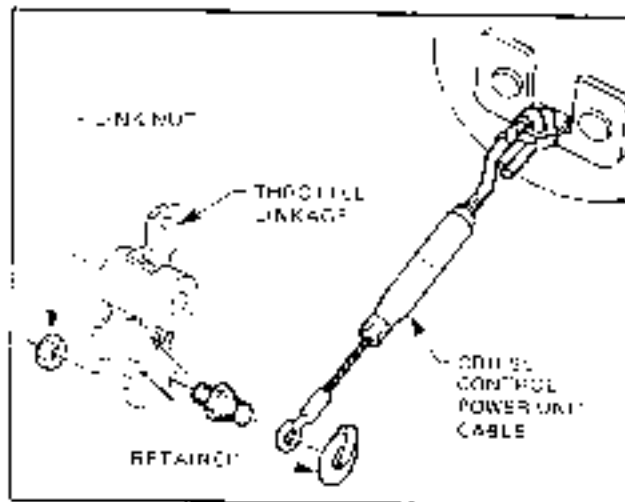

Figure 6C-83
6. Disconnect wiring harness connectors from the throttle position switch, die load compensator if fitted, coolant temperature sensor, injectors and generator. Refer Fig. 6C-84.